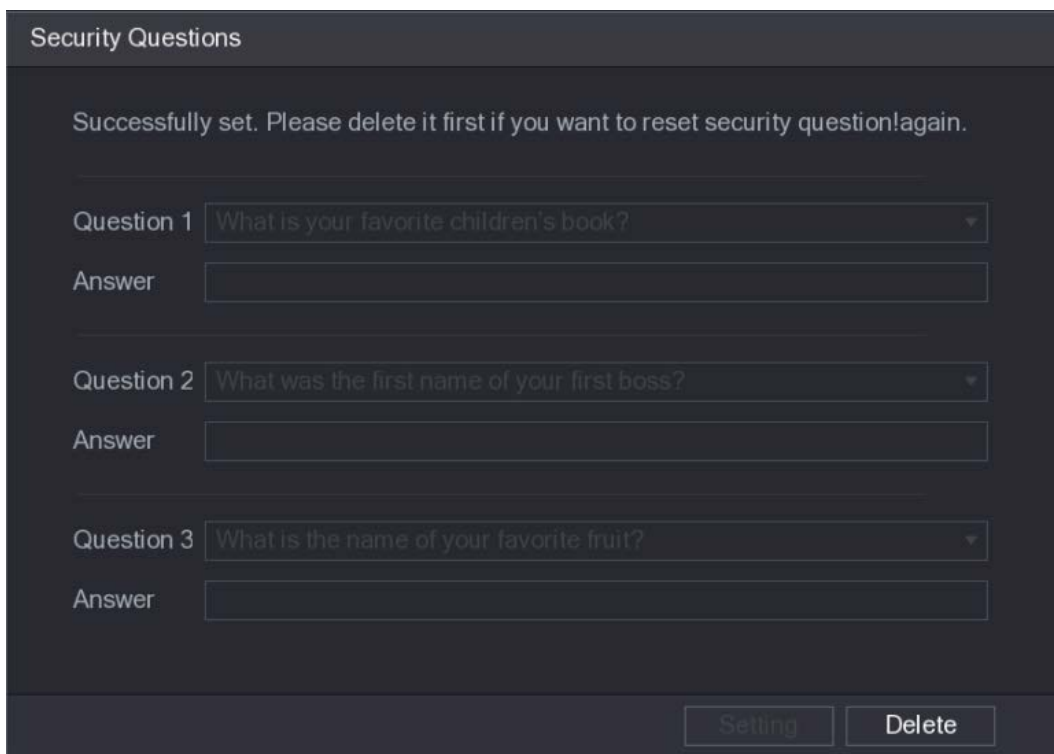

Figure 5-238
- The **Security Questions** interface is displayed. See Figure 5-238.